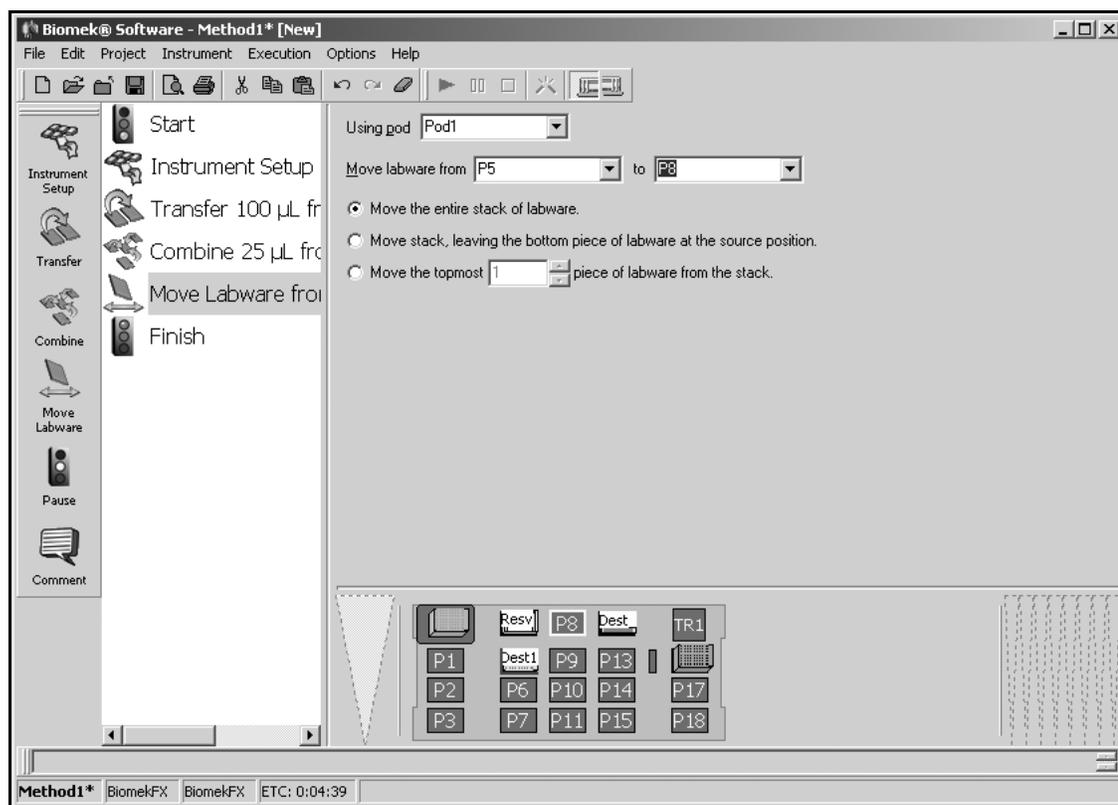

Figure 2-16. Configured Move Labware step
3. In Move labware to, select **P8** from the drop-down menu. The editor should now look like Figure 2-16.